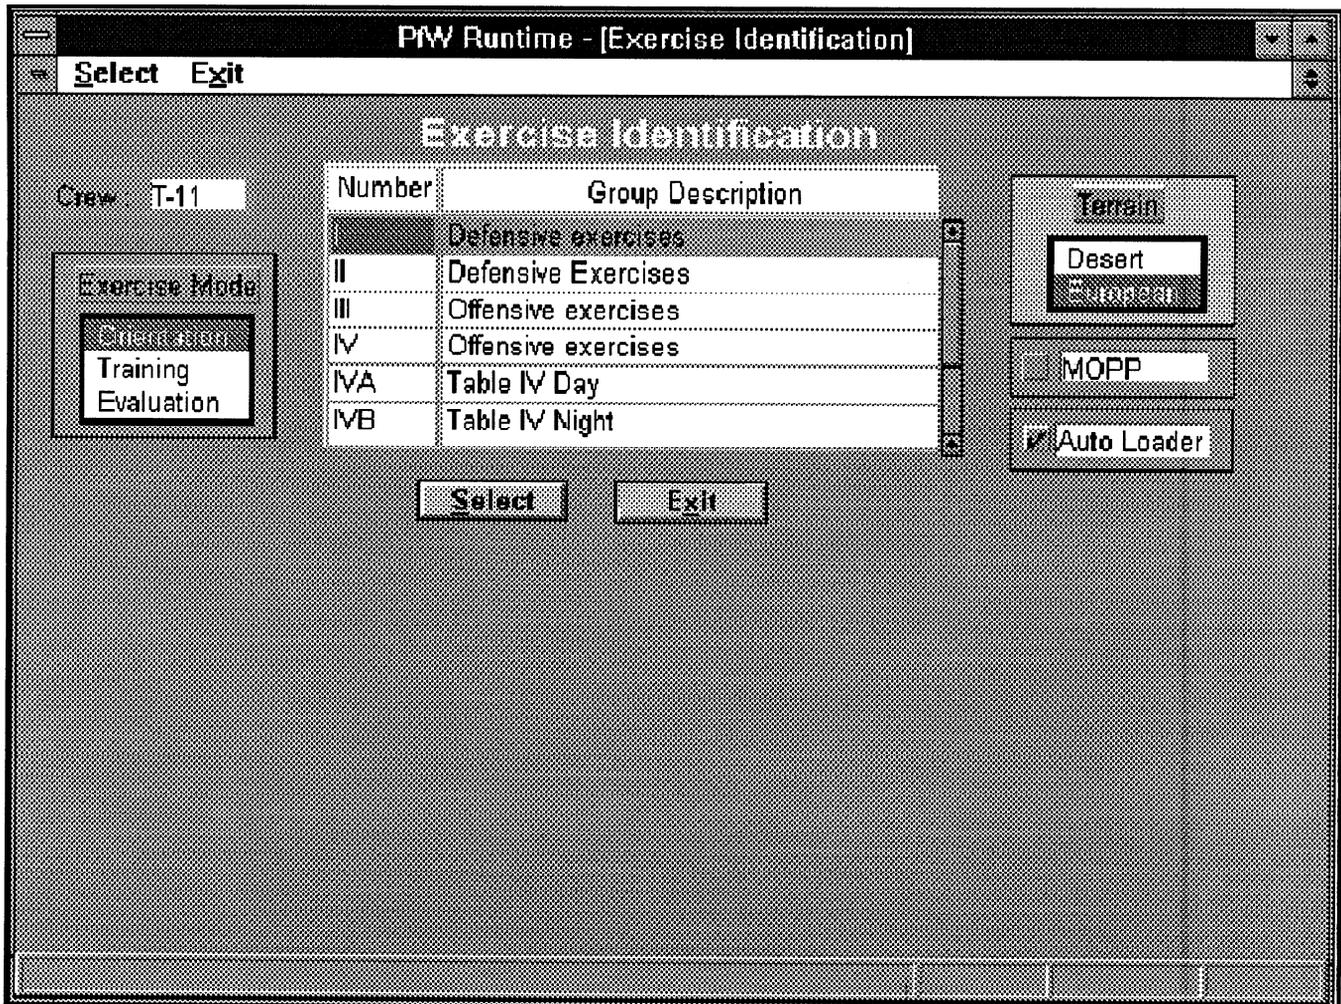

Figure 2-111. Exercise Identification Screen
- a. At the AFIST Main Screen, select Exercise Management. The Exercise Identification Screen, Figure 2-111, displays with the crew identification number of the previously selected crew displayed. Identify and select an exercise simulation for the selected crew as follows:
- (1) Click on Orientation to run exercises in Orientation mode. Orientation mode tasks run for 3 minutes and are used to familiarize the crew to the exercise and to train the crew in tank gunnery basics and crew coordination.
- (2) Click on Training to run exercises in Training Mode. In Training Mode, the system records the results of each task performed by the crew in Primary Operating Mode. Training tasks run from 50 to 75 seconds and are used to train crews who have mastered basic duties at each crew position. The I/O evaluates the results of Training exercises to determine when a crew is ready to advance to Evaluation exercises.
- (3) Click on Evaluation to run exercises in Evaluation Mode. In Evaluation Mode, the system records the results of each Evaluation task performed by the crew. For Croups I through III and Croup V, a crew must pass four of the six Evaluation tasks in one exercise to progress to the next higher exercise group.